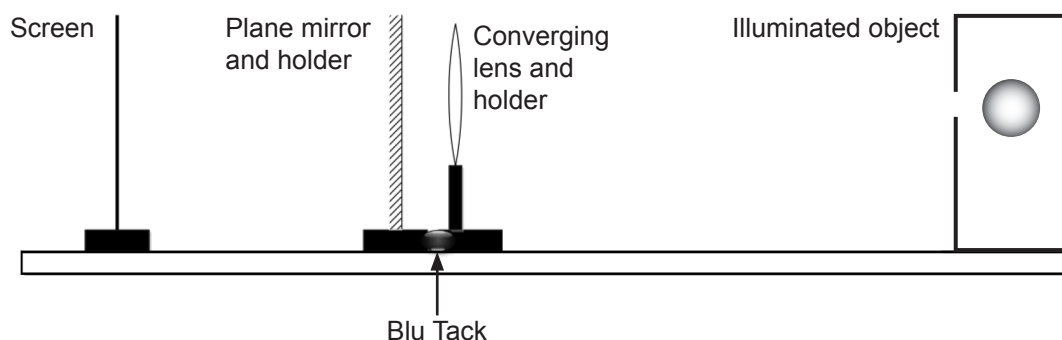

Fig. 2.1
- 2 In this experiment you will find the focal length of a converging lens by two different methods. The apparatus is shown in **Fig. 2.1**.